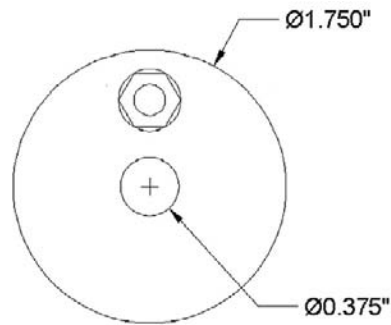

FIGURE 8.26
Step 5. Complete the rest of the top view by drawing the remaining circles and positioning the bolt at the top, as shown in Figure 8.26. Use accuracy (OSNAPs), although the bolt can be any distance from the top of the circle. Be careful to use diameters as indicated.